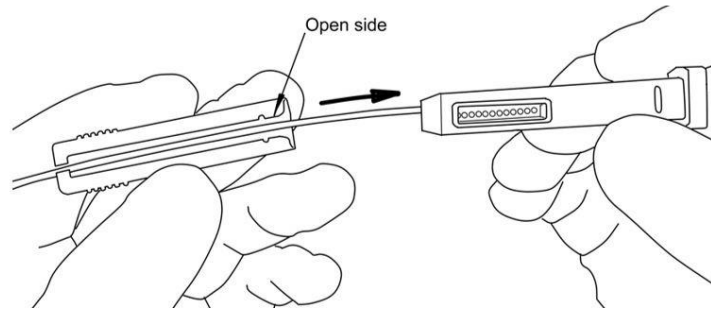

Figure 11.3: Placing the top cover over the lead and sliding onto lead adapter until it clips into place.
3. Place the top cover of the lead adapter over the lead, with the open side of the top cover aligned with the lead adapter plug. Slide the top cover all the way onto the lead adapter until the notch on the top cover clips into place (refer to Figure 11.3).